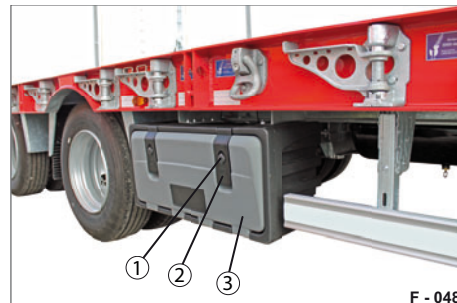
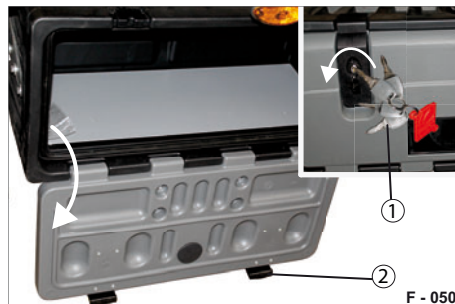

Fig. 114 Toolbox closed
Fig. 116 Toolbox open
- Remove the covers (Fig. 114/1) from the lock cylinders and close the lid (Fig. 114/3) with the key (Fig. 116/1).
- Pull out the locks (Fig. 116/2) from below and twist them downwards.
- Clasp the locks (Fig. 116/2) from above and press them downwards. This lid is locked.
- Lock with the key (Fig. 116/1) and fasten the cover over the key cylinder (Fig. 114/1). The toolbox is closed and secured.